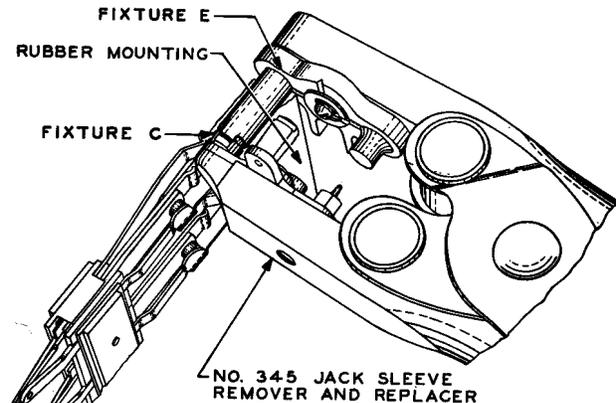

Fig. 9 - Method of Forcing Sleeve Forward, Flush with Face of Rubber Mounting
3.17 With fixture E of the No. 345 jack sleeve remover and replacer inserted in the face of the jack, and fixture C inserted in back of the sleeve, as shown in Fig. 9, force the sleeve forward by bringing the jaws together until the front of the sleeve is flush with the face of the rubber mounting.